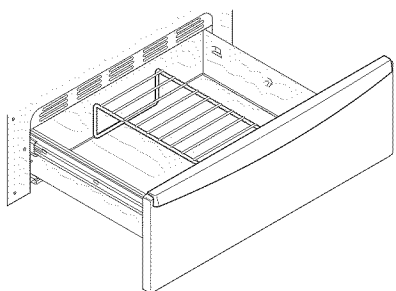

Figure 34: Upright position
- In the upright position (See Figure 34) to allow low profile food items to be placed both under and on top of the rack (for example, rolls or biscuits on top of the rack and a casserole dish underneath).